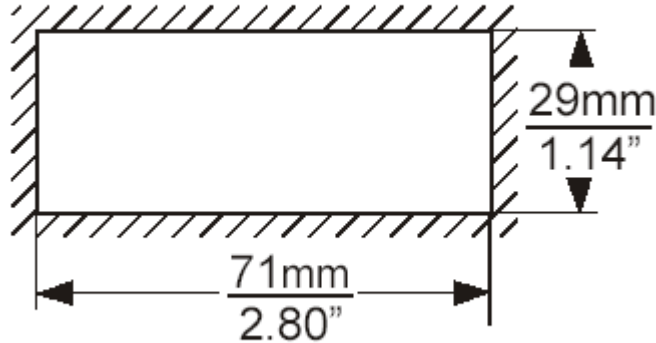

Figure 3: Panel Cut-out
1. FX05 panel mounting requires a panel cut-out with the dimensions shown in Figure 3.